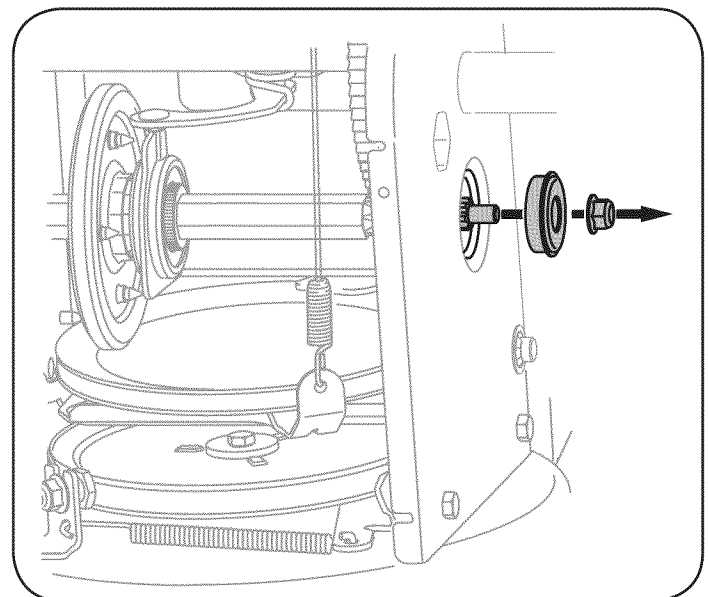

Figure 32
6. Carefully remove the hex nut and washer which secures the hex shaft to the snow thrower frame and lightly tap the shaft's end to dislodge the ball bearing from the right side of the frame. See Figure 32.